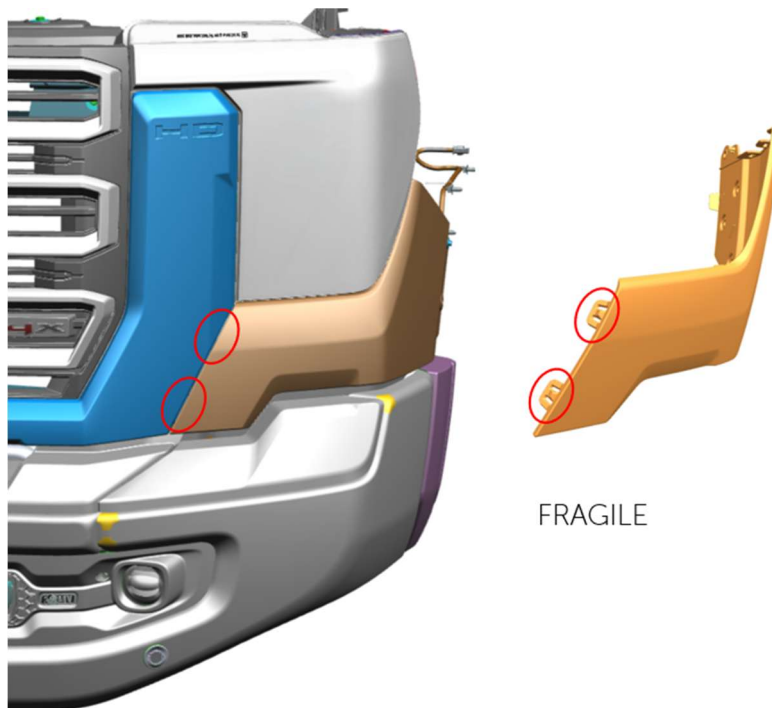

Figure 7
D. Disengage 'seatbelt' clips from grille and fender fascias. – See Fig. 7